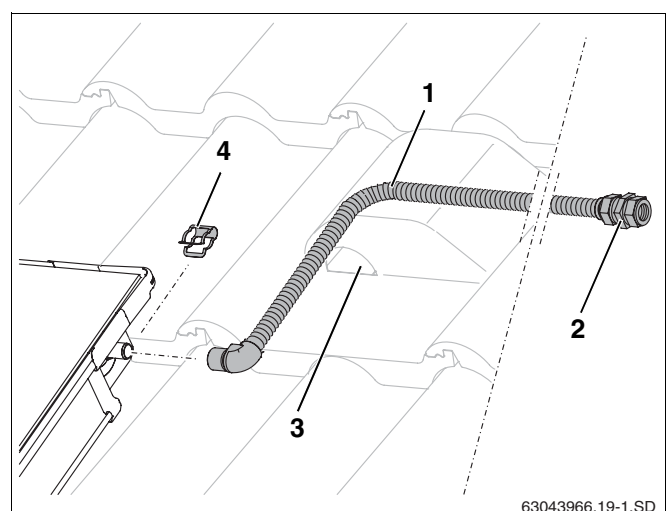

Fig. 53 Fitting flow line (with no vent at highest point in the system)
- ▶ Push connection pipe (1.000 mm, Fig. 53, **Item 1**) onto the flow connection on the collector array and fix in place using bracket (Fig. 53, **Item 4**).
- ▶ Feed connection pipe together with the sensor cable through the ventilation tile (Fig. 53, **Item 3**) and through the roof insulation.
- ▶ Connect header pipe to the compression fitting (Fig. 53, **Item 2**).